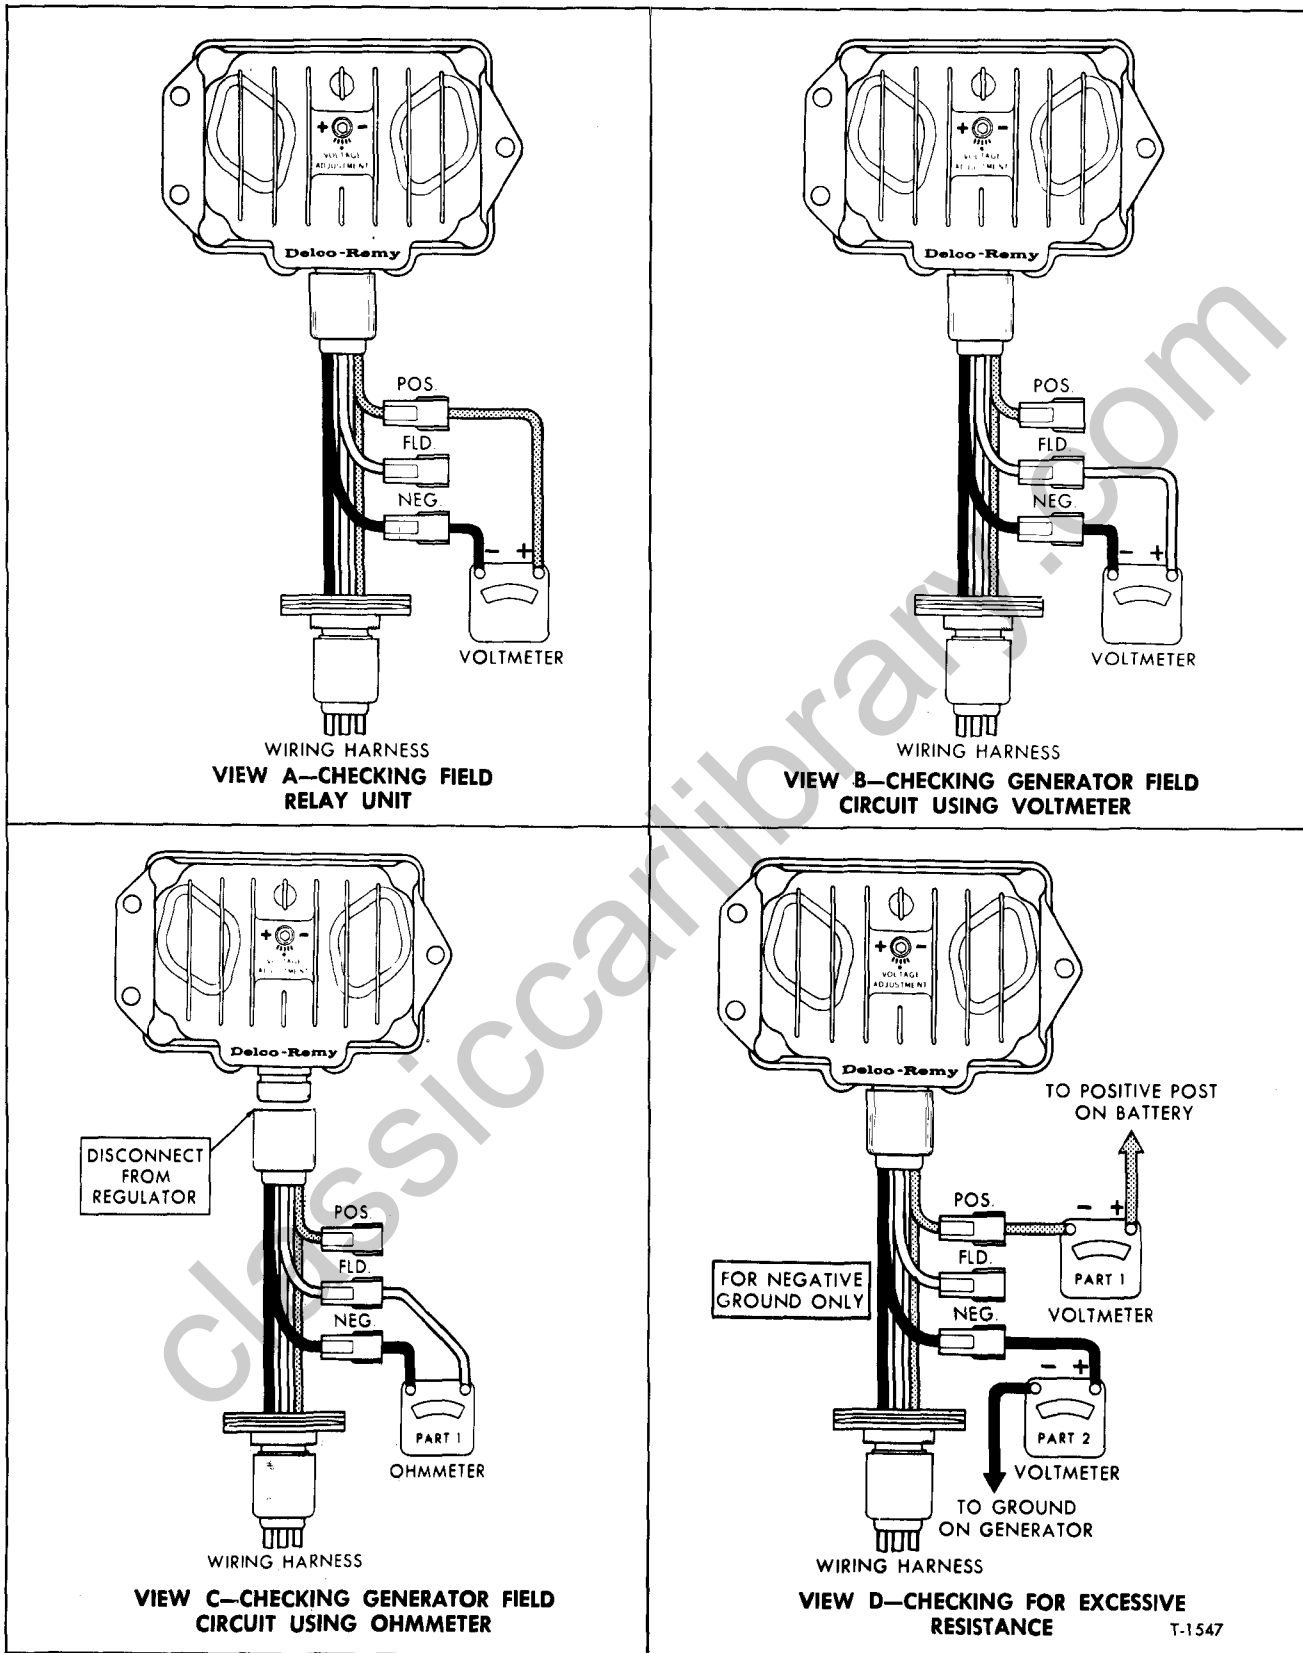

Figure 9—Using Adapter (J-21600) to Check Generator Output (Full Transistor Regulator)
1. Connect a voltmeter to the adapter as shown in View A, figure 9.
1. Connect a voltmeter to the test adapter as shown in View B, figure 9.
- c. Connect an ohmmeter to the adapter as shown in View C, figure 9.
meter as shown in View A, figure 9, and operate the engine at moderate speed. If the voltage is uncontrolled and increases with speed to values above the specified setting range, replace or repair the regulator.